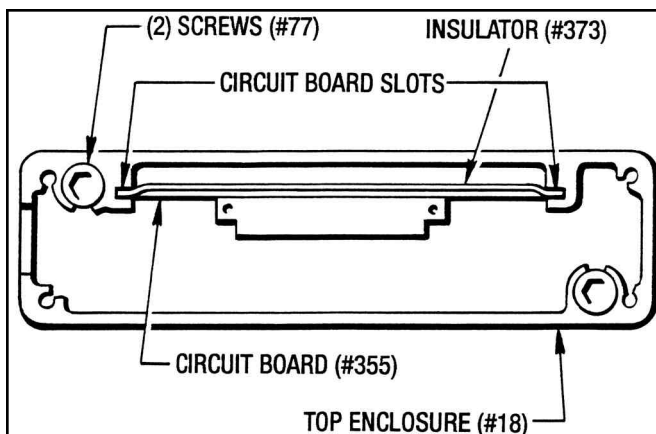

Figure 9.11 - Circuit Board Slots
8. While holding the Circuit Board upright slide the Upper Enclosure (#18) down over the Circuit Board onto the Disc Housing. Make sure the edges of the Circuit Board are in the (2) side retaining slots located in the Upper Enclosure. (See Figure 9.11)
9. Check the Gasket (#19) to see if it is still in place. Insert the (2) Screws (#77) and tighten down.
10. Slide the Insulator (#373) down and into the Upper Enclosure (#18) behind the Circuit Board (#355) placing the upper tabs into the circuit board slots. (See Figure 9.11)